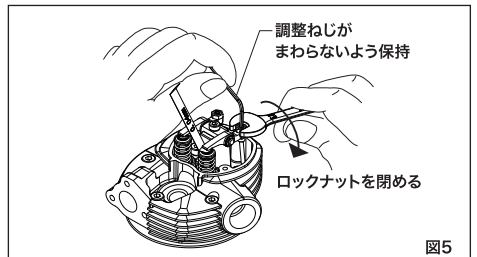

図5
4. Re-tighten locknut while holding adjusting screw stationary. (Fig.5.)